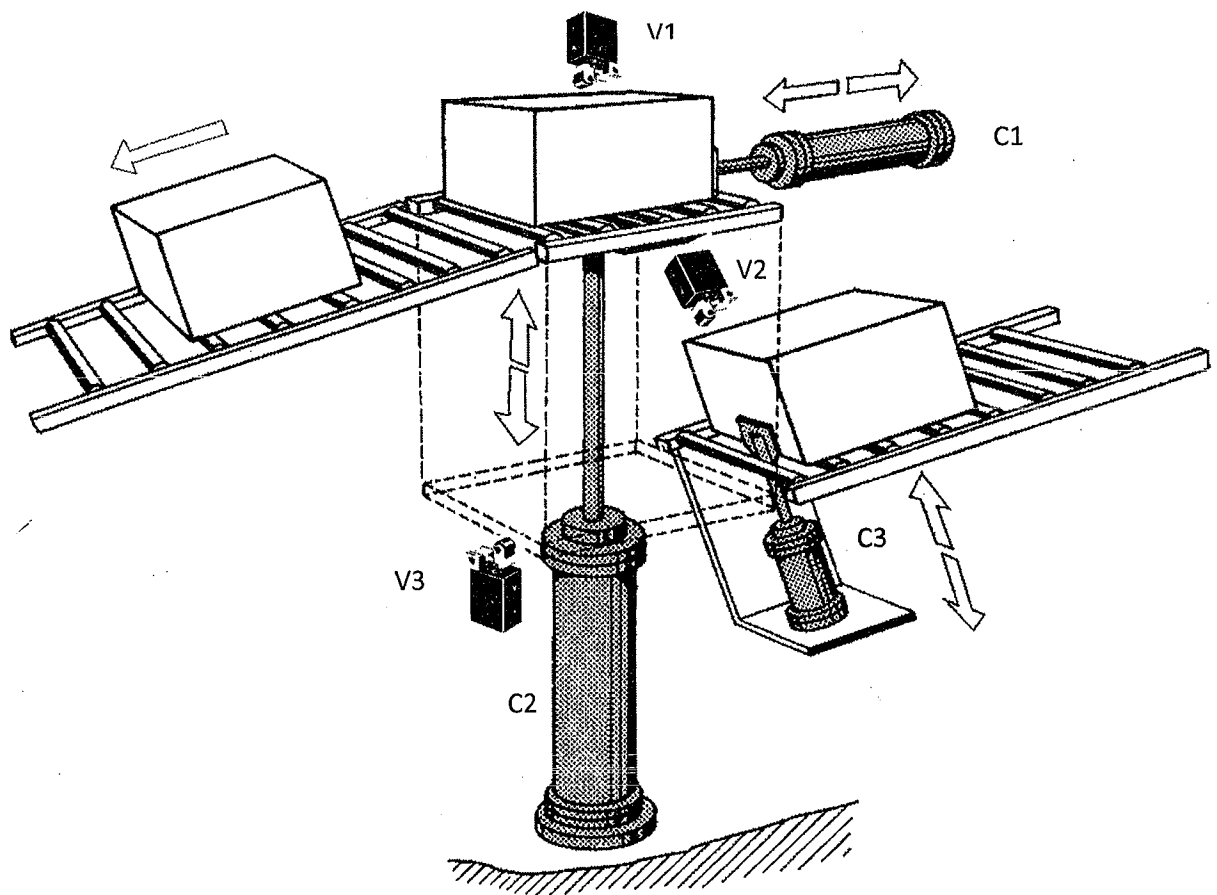

Figure 01
- d. Figure 01 below shows an automatic material transfer station which is used to transfer highly inflammable materials. Automation needs to be done entirely with pneumatic components. No electronic sensors or solenoid operated valves are permitted due to safety reasons. Draw a pneumatic diagram for the application by considering points given in the next page. (20 marks)